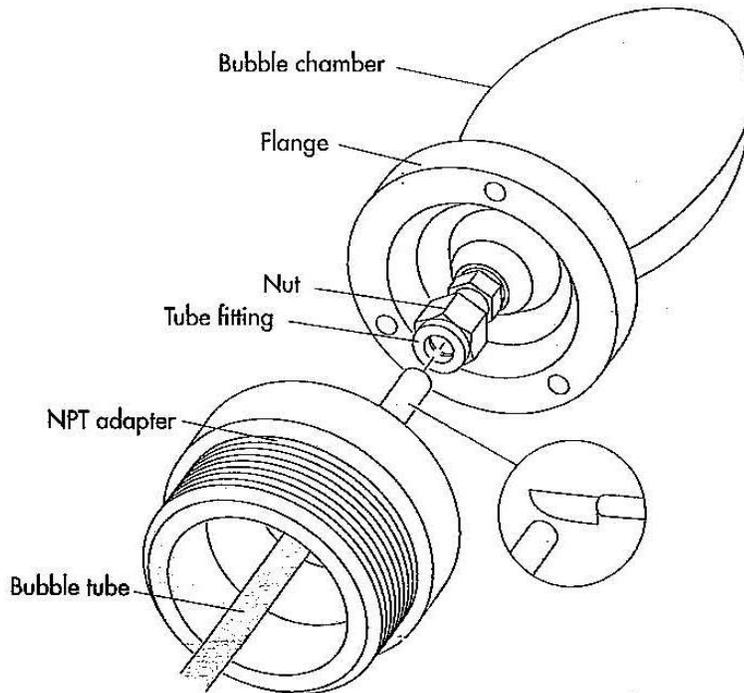

FIGURE 4-2. Connection of the Bubble Tube
- Cut the bubble tube at a 90° angle with a sharp blade (see Figure 4-2). *Do not use scissors.*
- Cut the bubble tube at a 90° angle with a sharp blade (see Figure 4-2). Do not use scissors.